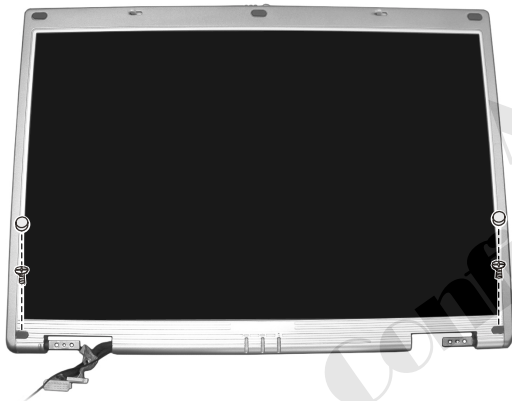

Figure 2-20 Remove LCD cover
2. Remove the two rubber pads and two screws on the corners of the panel. (Figure 2-20)